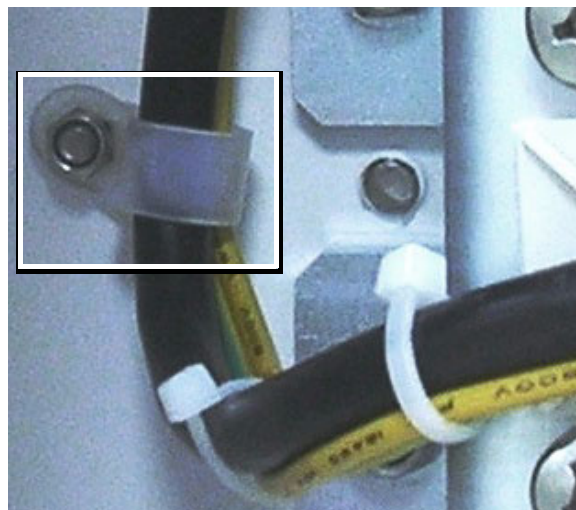

Figure 8-87 Correct Installation of Cable Clamp
- 4.) Secure the cable with the cable clamp in the direction shown in Figure 8-87.